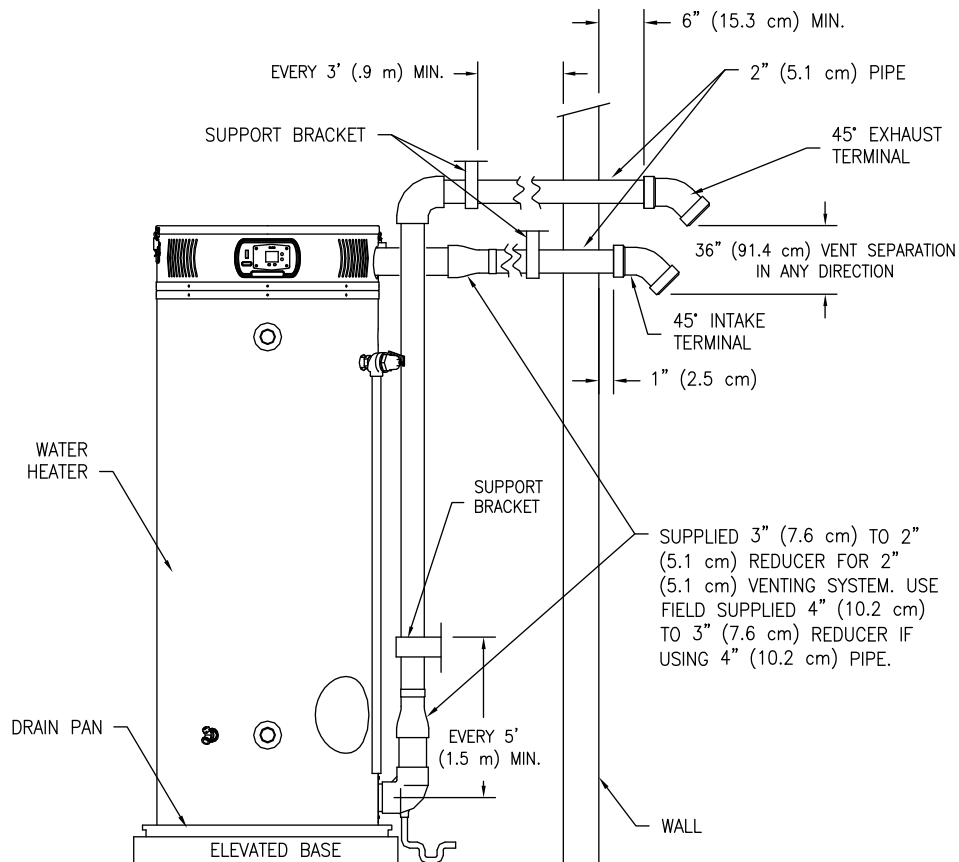

Figure 13. Typical Horizontal Direct Vent System
2. Use the proper cement to secure the exhaust vent and air intake terminals provided with the water heater to the pipes. The distance between the back edge of the exhaust vent terminal and the exterior wall (see Figure 13) must be 6 inches (15.3 cm) more for the exhaust vent terminal than the air intake terminal. Use the proper cement or sealant and assembly procedures to secure the vent connector joints between the terminal and the blower outlet. Provide support brackets for every 3 feet (.9 m) of horizontal vent beyond the intake terminal.